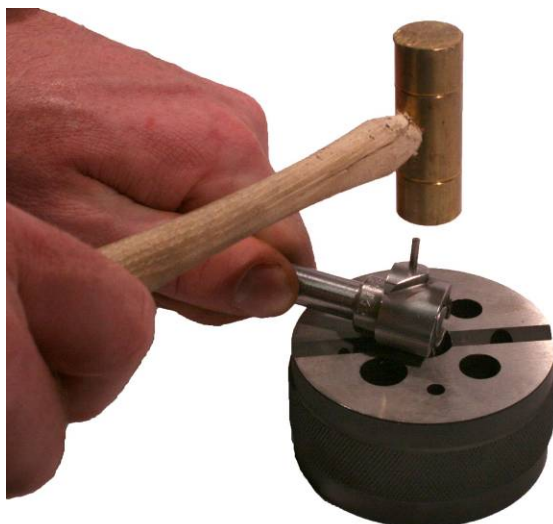

Figure 9. Installing the Firing Pin Retaining Pin.
- Using a hammer, lightly tap in the firing pin retaining pin until it is flush. Refer to Figure 9.